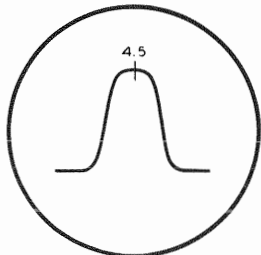

FIG. 3
5. Check overall video IF response for curve similar to Fig. 3. If necessary, retouch A1 thru A3 for desired response.